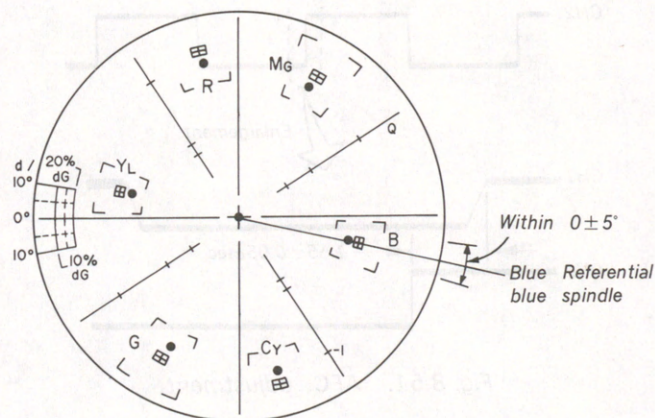

Fig. 8-56.
- 2) Turn RV003 to minimize the blue vector deviation (within $0 \pm 5^\circ$) from the referential blue spindle (Fig. 8-56).